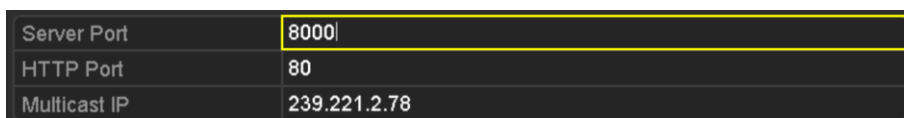

Figure 9. 19 Host/Others Settings Menu
2. Select the **More Settings** tab to enter the More Settings interface, as shown in Figure 9. 16.